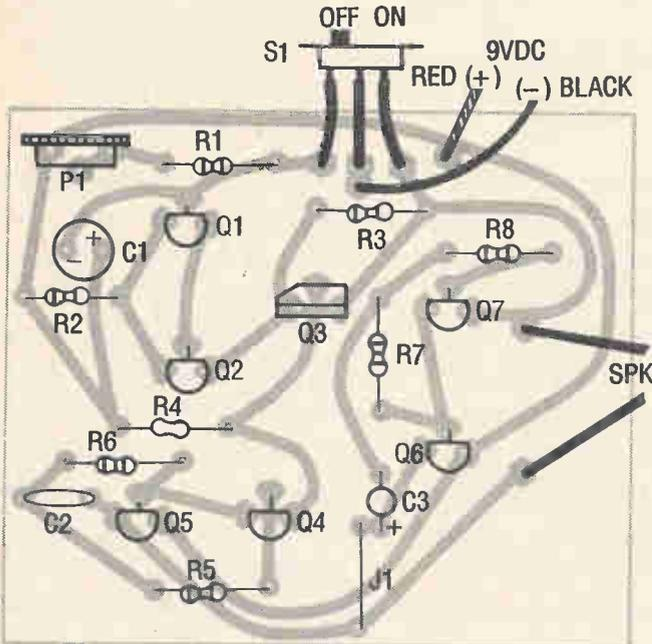
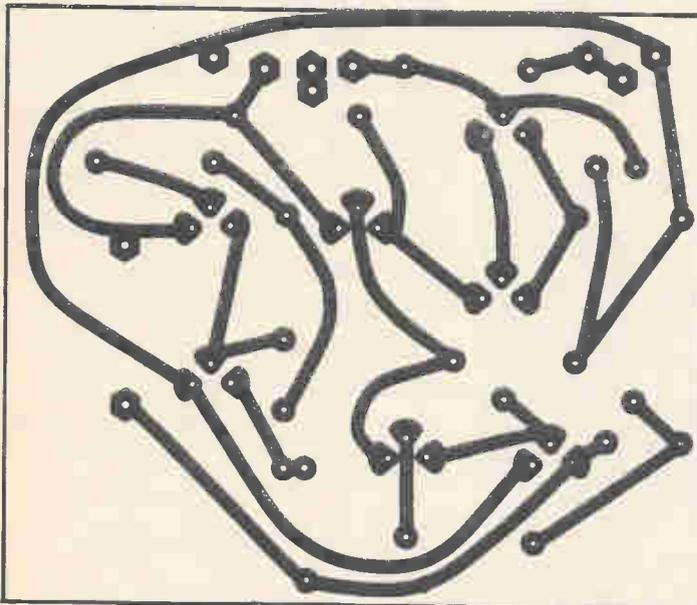
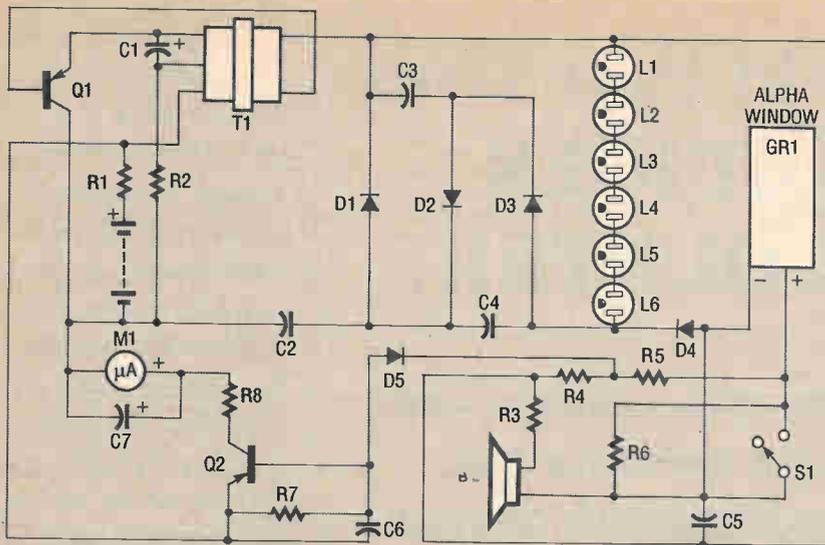

Figure 2. Follow this parts-placement diagram for proper assembly. Be sure to install all polarized components correctly!
Figure 3. The foil pattern is provided here, full sized, for those readers who wish to etch their own circuit boards.
Figure 1. The schematic of the Geiger Counter shows a two-transistor circuit with an alpha-window Geiger Mueller (GM) tube.
the schematic (Figure 1), the parts-placement diagram (Figure 2), and the Parts List. Be sure to use only 60/40 rosin-core solder. You can etch your own board using the foil pattern in Figure 3, or buy a complete kit that includes the board as indicated in the Parts List.
As illustrated in the schematic (Figure 1) the Geiger Counter with Meter uses a two-transistor circuit and a sensitive alpha-window Geiger Mueller (GM) tube to detect radiation. The
1. Carefully follow the parts-placement diagram shown in Figure 2, and refer to the Parts List and the schematic as needed. Use only 60/40 rosin-core solder. **Do not** remove